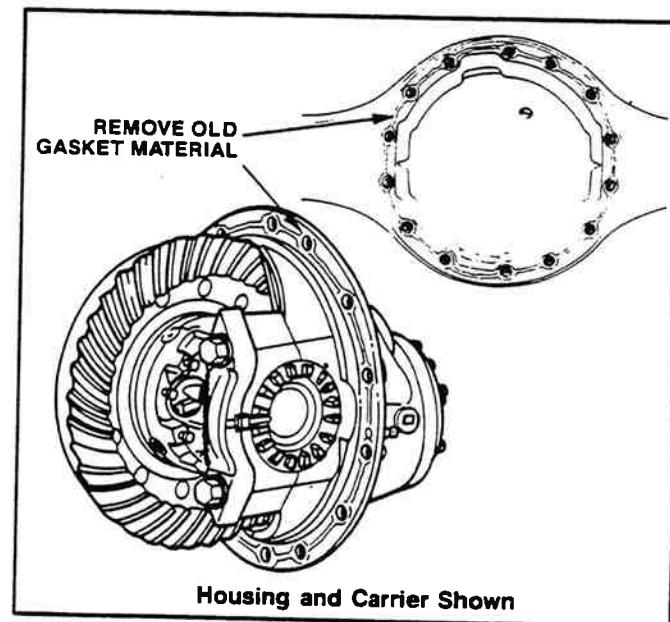

Figure 2-35. Replacing Silicone Gasket.
1. Remove all old gasket material from both surfaces (Figure 2-35).
4. Apply a 1/8-inch-diameter continuous bead of the silicone gasket material around one surface. Also apply the gasket material around the edge of all fastener holes in that surface (Figure 2-35).